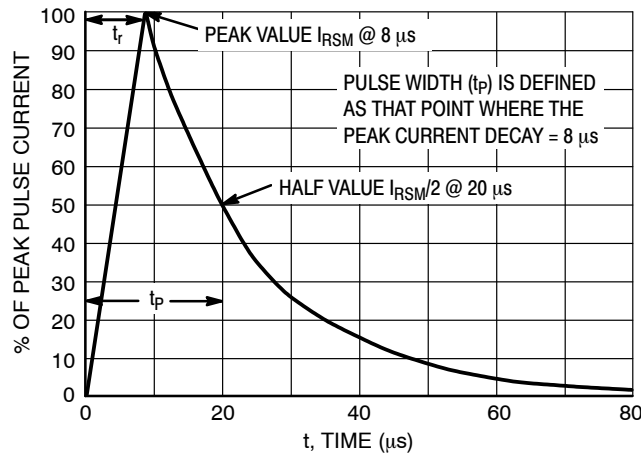

Figure 5. 8 x 20 μ s Pulse Waveform
3. Surge current waveform per Figure 5.